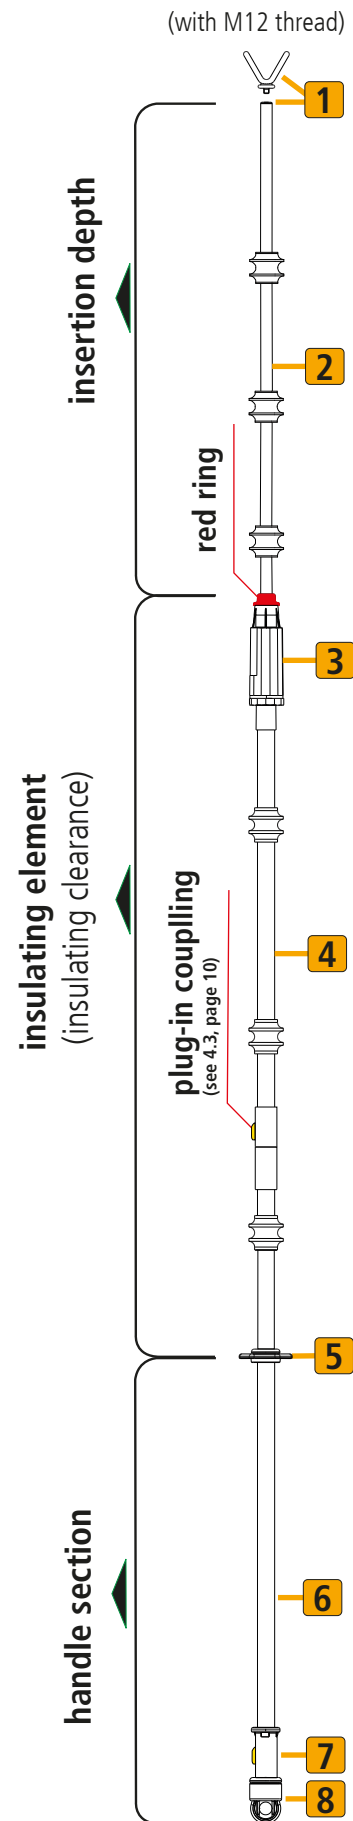
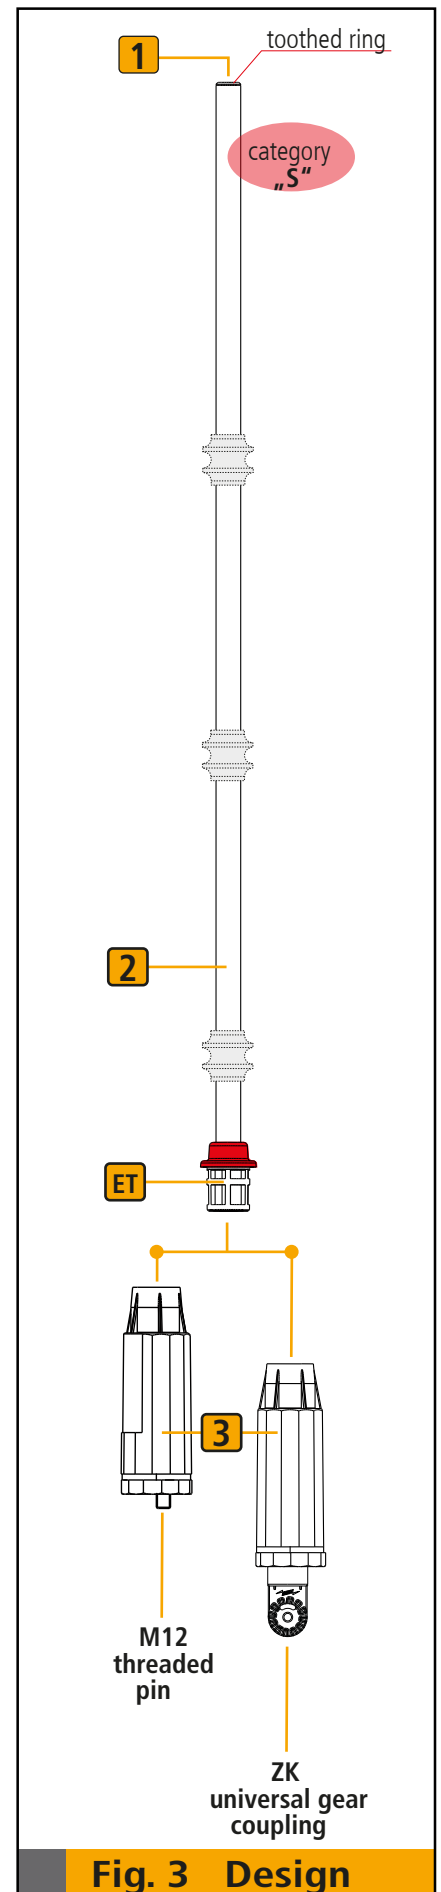

Fig. 2
Fig. 3 Design
PHE3... voltage detectors consist of several elements (see chapter 4 and Figs. 2 and 3).
PHE3... voltage detectors consist of three or more elements, namely a detachable insulating stick, a detachable test prod and, if required, one or several extension handles (see also Fig. 2, page 5).
The upper end (test electrode **1**) of the category "S" test prod of the **PHE3...** voltage detector is fitted with a toothed ring, allowing safe contact with the part of the installation (see Fig. 3).
(see also Fig. 2, page 5).
5. Notes on safe operation (see also Fig. 2, page 5 and Fig. 3, page 6).
The test electrode **1** (see Fig. 2, page 5 and Fig. 3, page 6) of voltage detector can now be moved towards the part of the installation to be tested. The relevant voltage / operating state of the part of the installation to be tested is now visually and acoustically indicated via the indication signals (see Fig. and Table 6.3.2). The voltage test may only be performed as long as the green indicator light is permanently illuminated, that is the voltage is ready for testing.